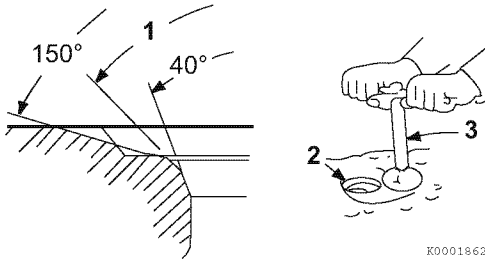

Figure 6-21
Light cutting can be performed by the use of a hand-operated cutter (**Figure 6-21, (3)**).
Valve seat diameter can be adjusted by top-grinding with a 150° stone to make the seat diameter smaller, and bottom-grinding using a 40° stone to make the seat diameter larger. Once the seat location has been corrected, grind and lap the seat angle (**Figure 6-21, (1)**) to specification. See *Cylinder Head* on page 6-4 for the service limit.